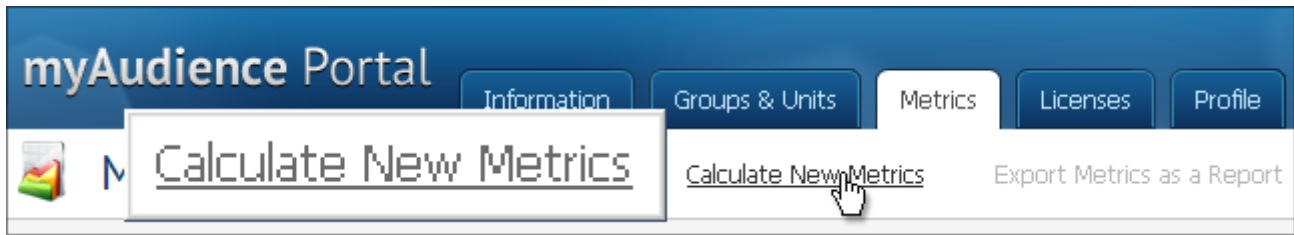

Figure 88: "Calculate new metrics" link.
1. To start new metrics' calculation session, access the Reports Portal "Metrics" tab at <http://portal.myaudience.com/metrics.php> and press "Calculate New Metrics" link (Figure 88).